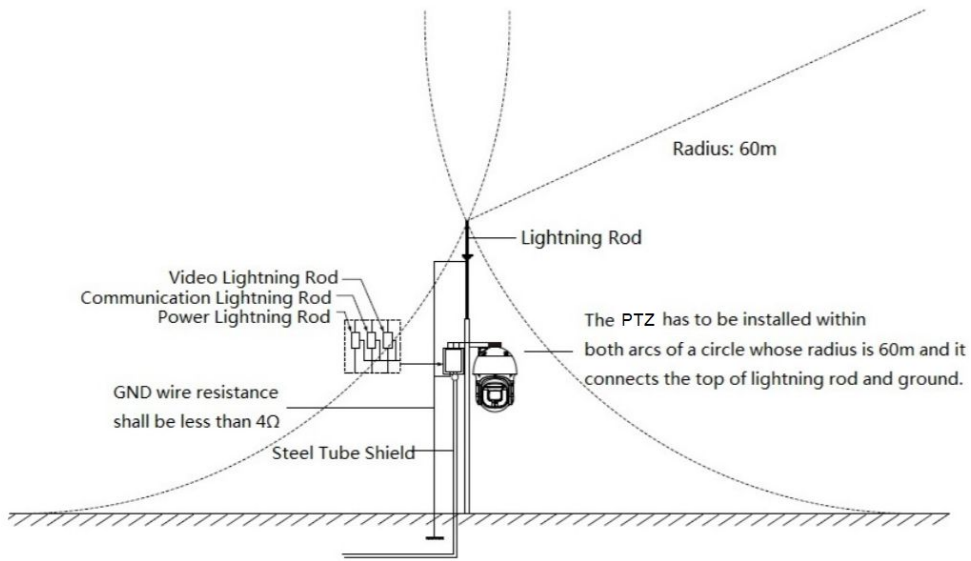

Figure 5-1
- Electrical bonding is recommended. The ground device should meet anti-jamming requirements and conform to your local electrical safety code. The ground device should not short circuit to N (neutral) line of high voltage power grid or mixed with other wires. When connecting the system to the ground alone, the grounding resistance should not be more than 4Ω and earth cable cross-sectional area should be no less than 25 mm2. See Figure 5-1.